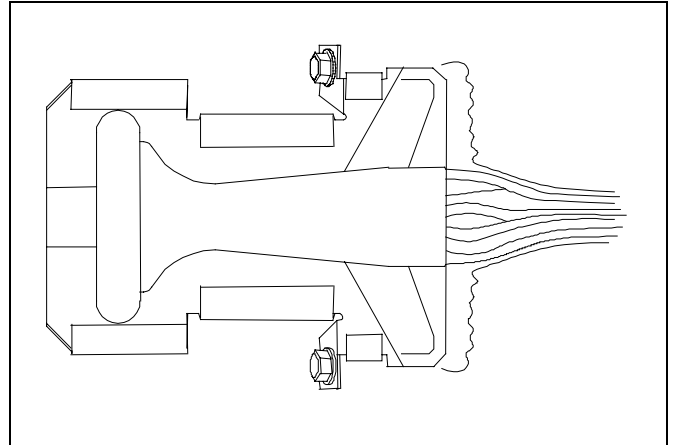

Figure 5. Main Burners.
- Main burners and pilot burner should be properly adjusted as shown in Figures 5 and 6, respectively. Main burner